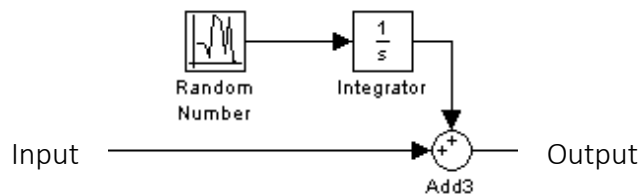

Figure 8. Gyro model
Therefore, modelling the disturbance torque  $T$  as a Gaussian random signal, a *Simulink model of a gyro* would look like that shown in fig. 8. **Important:** you should set the standard deviation of the random number to 0.1, which gives a reasonable value for  $h$ , and set the mean to  $\sim 0.02$  which should give you around  $1.5^\circ$  per minute drift
- S4.3 Construct a model of a gyro compass. Represent the gyro-compass as an ideal sensor with error modelled as integrated white noise with an offset, e.g. Fig. 8.